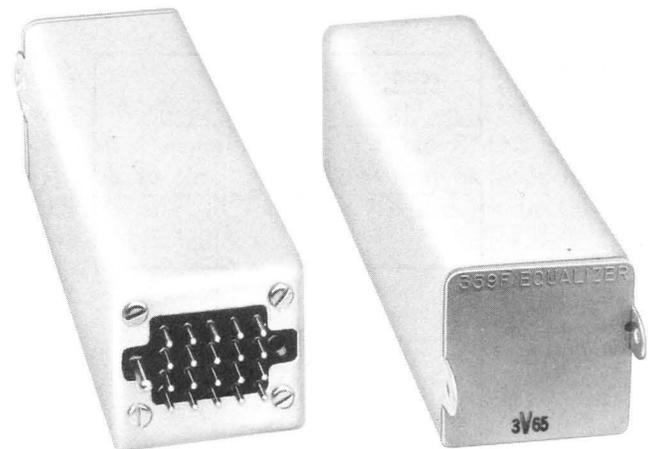

Fig. 1—359F Equalizer
2.01 The 359F equalizer (Fig. 1) is a plug-in unit equipped with a 20-pin connector plug and can be plugged directly into the equalizer socket of the repeater mounting shelf.